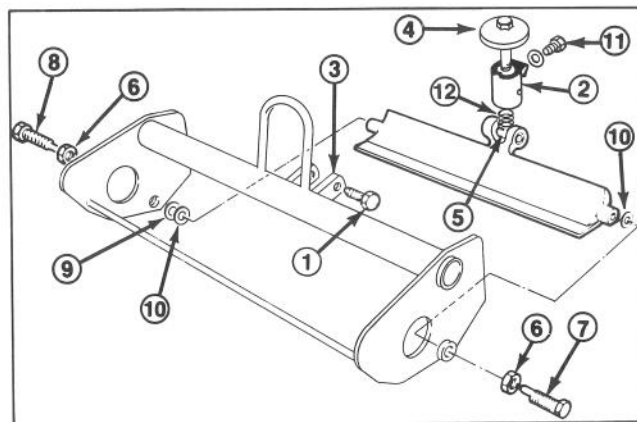

Figure 12
1. Remove spring arm retaining cap screw and washer from pivot assembly. Loosen pivot screws securing bedknife pivot assembly to reel frame supports (Fig. 12).
2. Rotate adjustment knob and pivot assembly clockwise (left hand thread) until it is unthreaded from bedbar pivot (Fig. 12).
3. Loosen jam nuts retaining right and left bedbar pivot bolts. Remove pivot bolts (Fig. 12).
assembly not installed. Tighten jam nut while holding shoulder bolt (Fig. 12).
9. Thread adjustment knob and pivot assembly into flat side of bedbar pivot until mounting holes in pivot assembly are aligned with holes in reel frame supports and bedknife does not interfere with reel (Fig. 12).